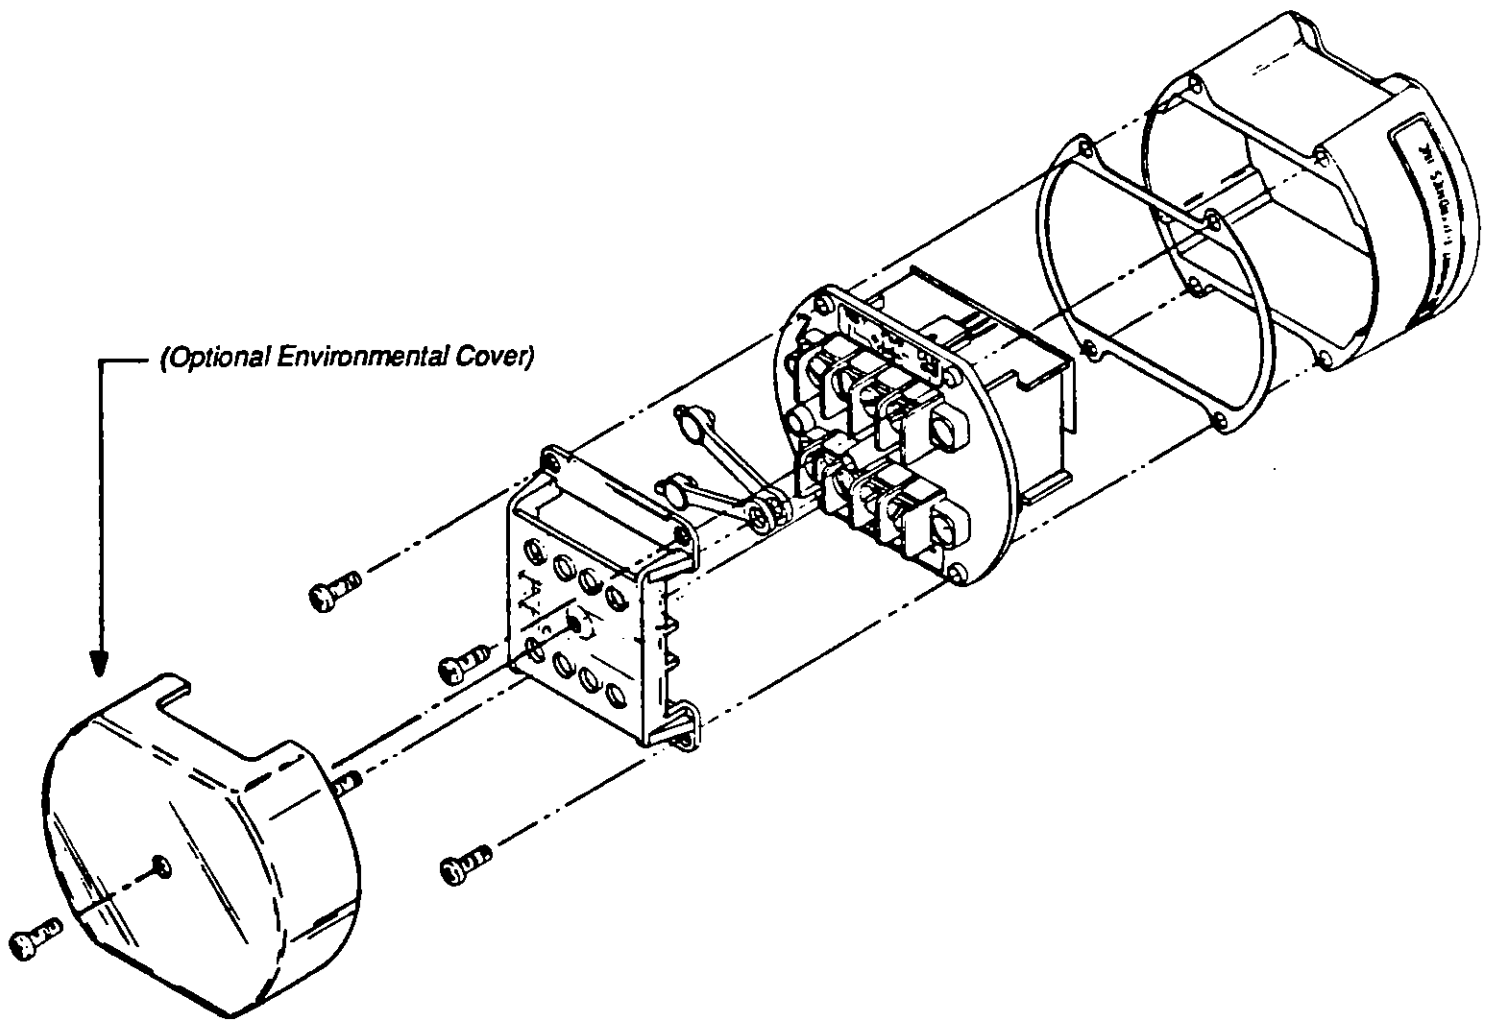

Figure 5-1 Exploded View
1. Refer to Figure 5-1. Remove the four Phillips-head screws from the 502A-K case top, and set aside the plastic barrier cover.
1. Referring to Figure 5-1, remove 4 Phillips-head screws from top of 502A-K case, and lift out the electronics.